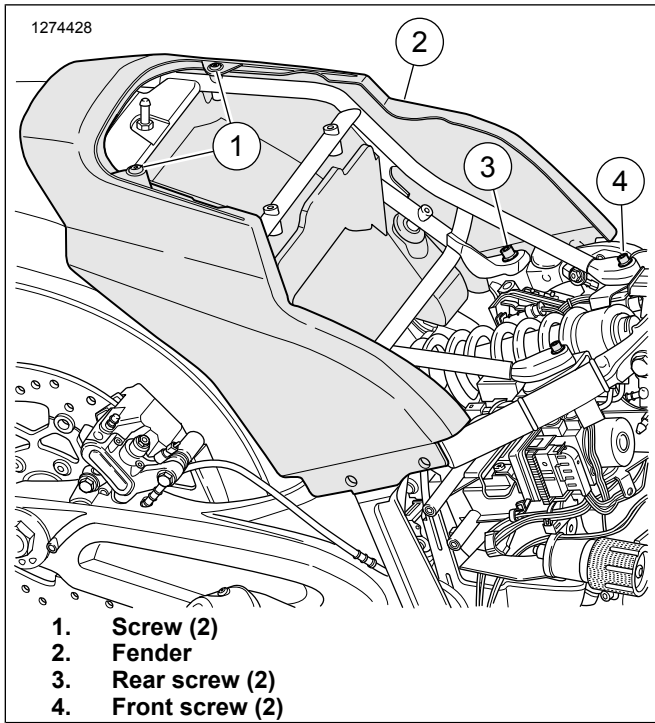
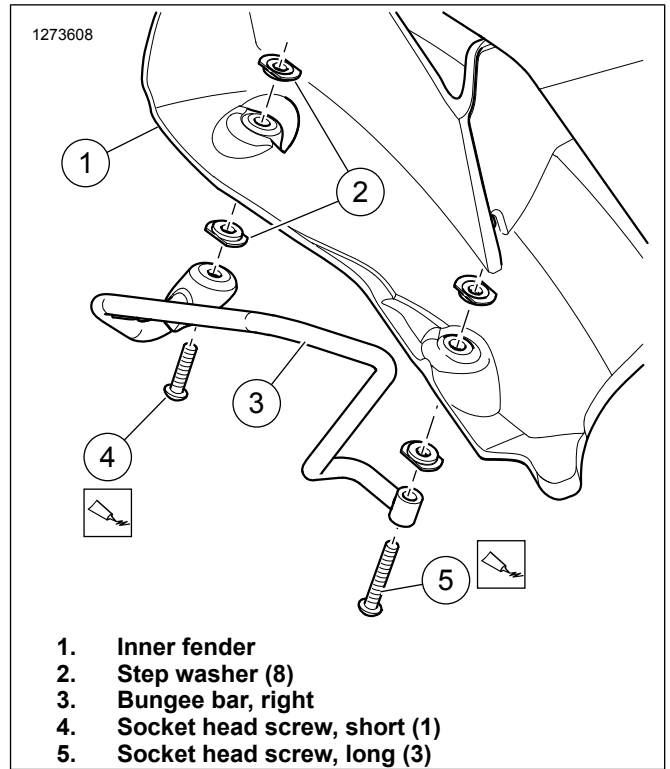
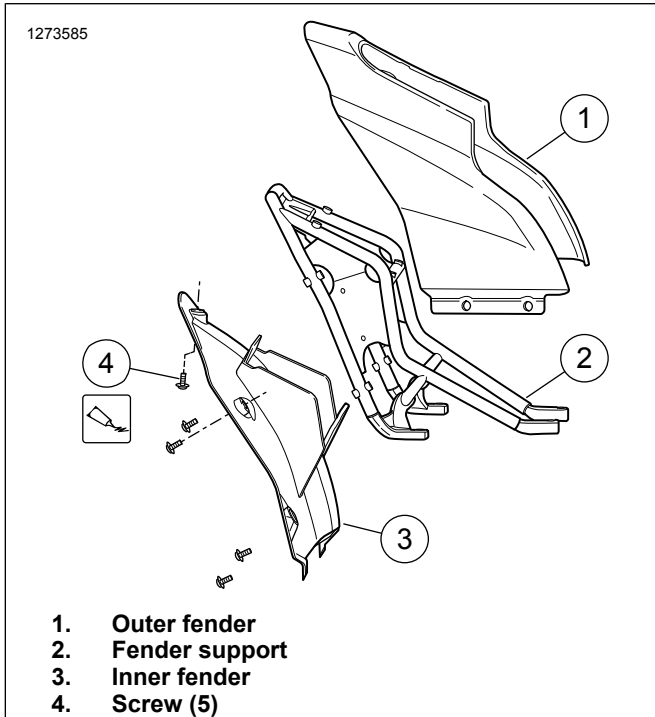

Figure 3. Tail Section
Figure 5. Bungee Bar Assembly
Figure 4. Inner Fender
- Remove screws (3) and washers (2).
- See Figure 3. Remove tail section.
- Leave screws (1) installed.
- Gently** remove tail section and fender (2).
- See Figure 4. Remove inner fender (3).
- Remove five screws (4).
- See Figure 4. Drill four holes in the inner fender (3).
- See Figure 5. Install step washer (2).
- Peel adhesive backing off of step washer (2)
- See Figure 4. Install inner fender (3) to fender support (2).
- Chase threads in top hole of fender support (2).
- Clean threads on screw (4).
- Apply threadlocker to screw (4).
4. See Figure 5. Install right bungee bar (3).
6. See Figure 3. **Gently** install tail section.
- a. Position tail section with fender (2).
- b. Install screws (3).